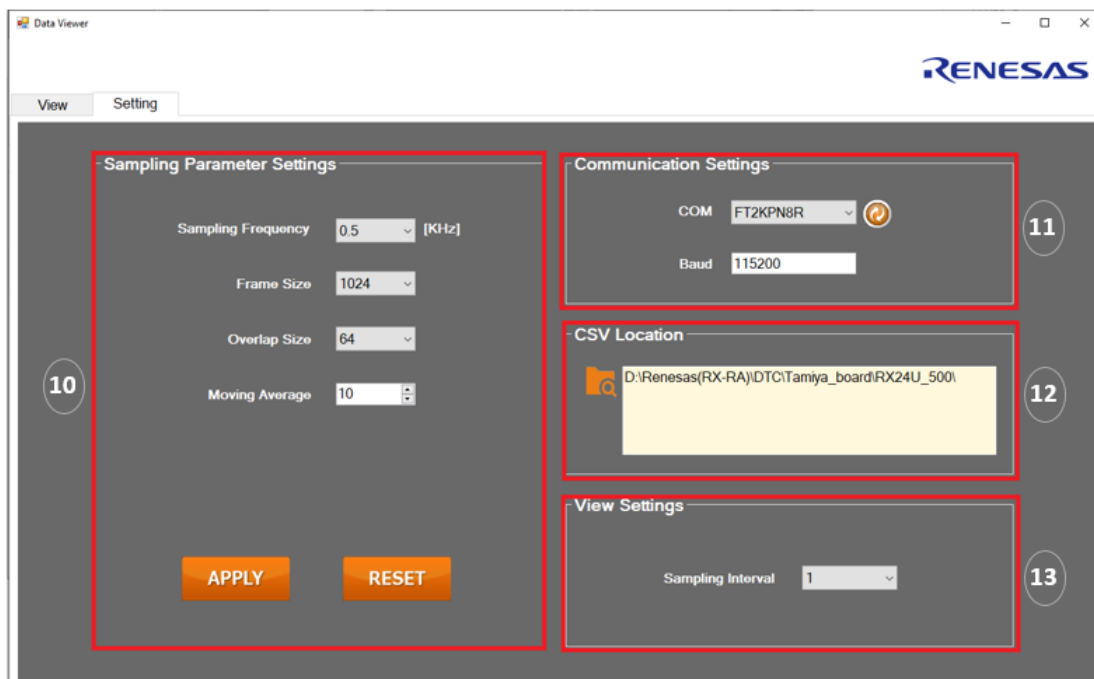

Figure 11. Data Collection Tool Parameter settings
- Figure 11 shows the parameter setting and communication settings of Data collection Tool for RX24U.